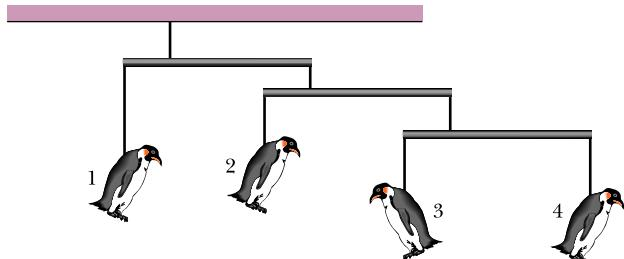

Figure 12.4 Question 5.
**5** Figure 12.4 shows a mobile of toy penguins hanging from a ceiling. Each crossbar is horizontal, has negligible mass, and extends three times as far to the right of the wire supporting it as to the left. Penguin 1 has mass  $m_1 = 48 \text{ kg}$ . What are the masses of (a) penguin 2, (b) penguin 3, and (c) penguin 4?